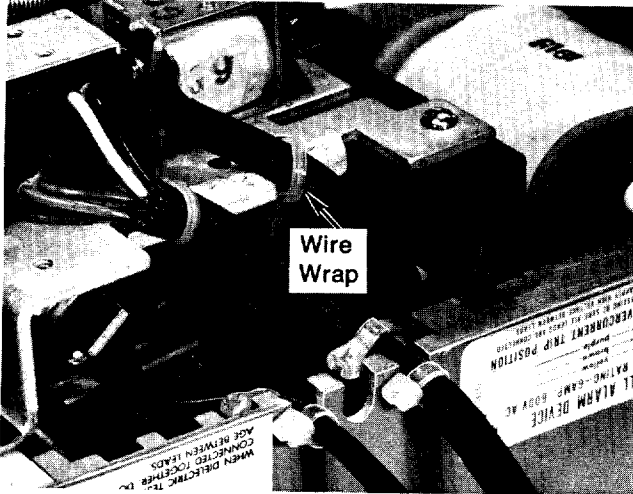

Fig. 8
9. Use the wrap provided to secure leads to mounting plate as shown in Fig. 8.